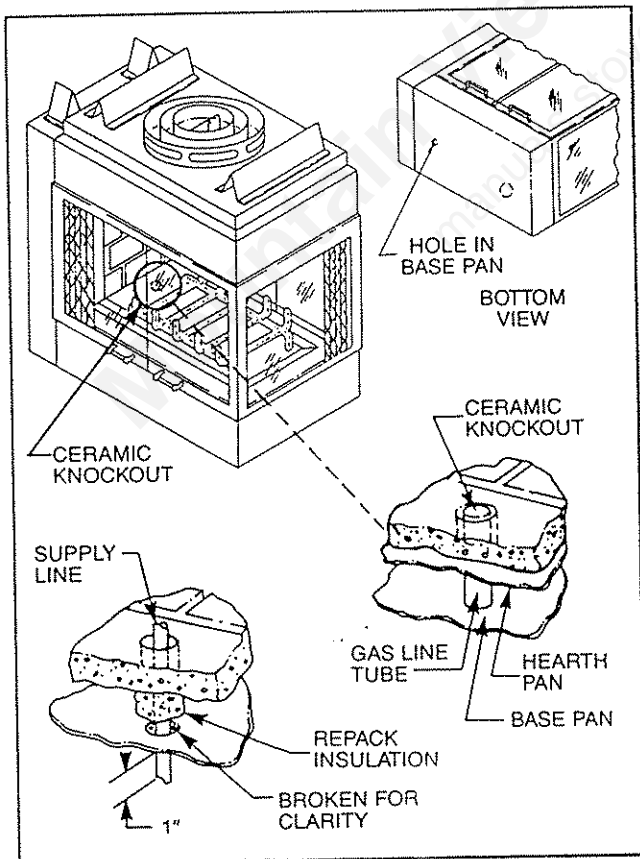

Fig. 23. Install iron pipe gas line through provided hole in bottom of fireplace.
Locate the gas line hole in the base pan of the fireplace and remove the insulation from the gas line tube. (Refer to Fig. 23).
**NOTE:** The gas pipe should not come in contact with any wood structures until it has reached a point at least one (1) inch away from the fireplace bottom. (See Fig. 23 for installation clarification.)